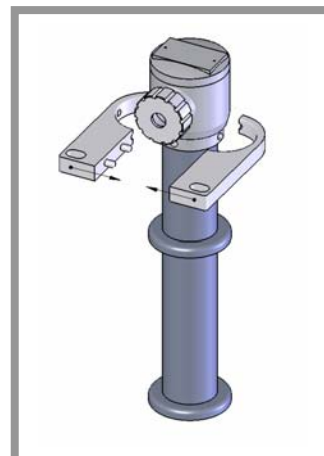

Figure 1: Mounting Flange Assembly (OTS Heaters)
- Snap the two halves of the mounting flange around the heater head in the desired direction. The flange should fit into the groove on the heater head (see figure 1).